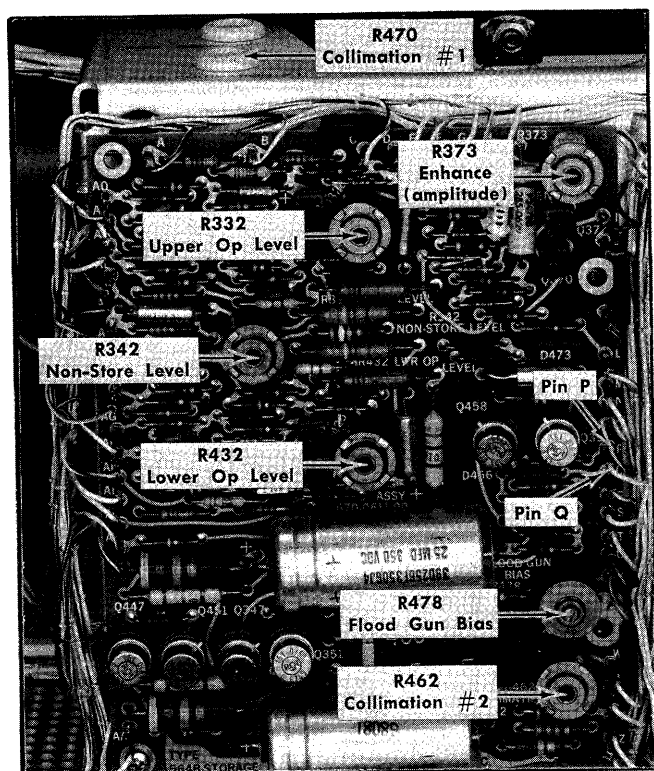
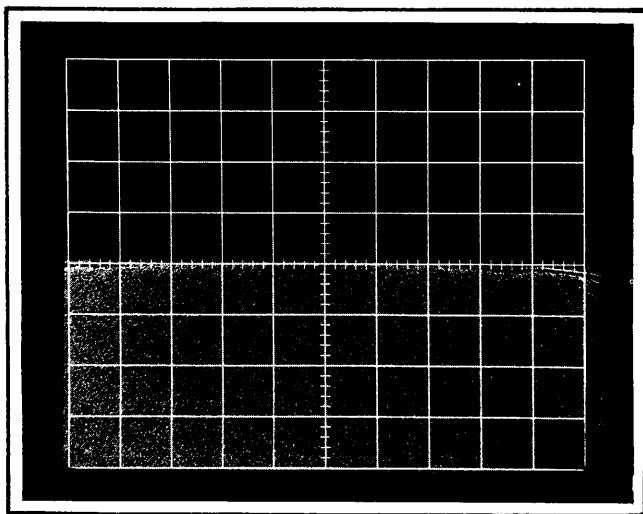

Fig. 5-22. Location of storage controls and test points.
Fig. 5-26. Typical CRT display showing correct adjustment of R342, Non-Store Level.
d. With the screen fully written, rotate R478, Flood Gun Bias (Fig. 5-22), fully counterclockwise. Note the shadows at the corners of the screen (Fig. 5-23A).
c. With the screens fully written, rotate R470, Collimation #1 (Fig. 5-22), fully counterclockwise, then clockwise to the point where the screens just begin to brighten.
d. Rotate R462, Collimation #2 (Fig. 5-22), fully counterclockwise.
a. Connect a DC voltmeter, set to the 300-volt range, between pin P of the Storage board (see Fig. 5-22) and ground.
c. Rotate R332, upper screen Op Level (Fig. 5-22), fully counterclockwise and then note the voltmeter reading.
h. Connect the DC voltmeter, set to the 300-volt range, between pin Q of the Storage board (see Fig. 5-22) and ground.
j. Rotate R432, lower screen Op Level (Fig. 5-22), fully counterclockwise and note the voltmeter reading.
- d. When locating the operating point for each target as outlined in the following steps, connect the DC voltmeter to pin P and adjust Op Level R332 for the upper target, and connect the DC voltmeter to pin Q and adjust Op Level R432 for the lower target. These controls and test points are shown in Fig. 5-22.
- ADJUST—R342, Non-Store Level (Fig. 5-22), for the best division between the two screens, with no background glow on the upper (non-stored) screen. See Fig. 5-26.
- d. Rotate R373, Enhance (Fig. 5-22), fully counterclockwise.